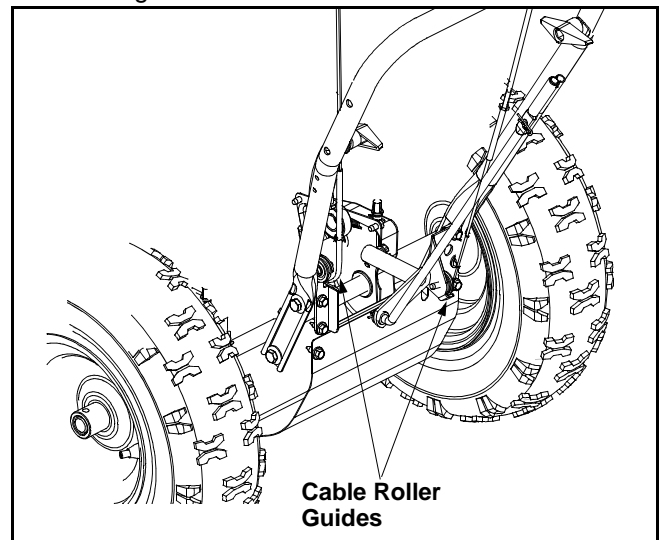

Figure 3
- Look at lower rear of snow thrower frame to be sure both cables are aligned with cable roller guides. See Figure 3.